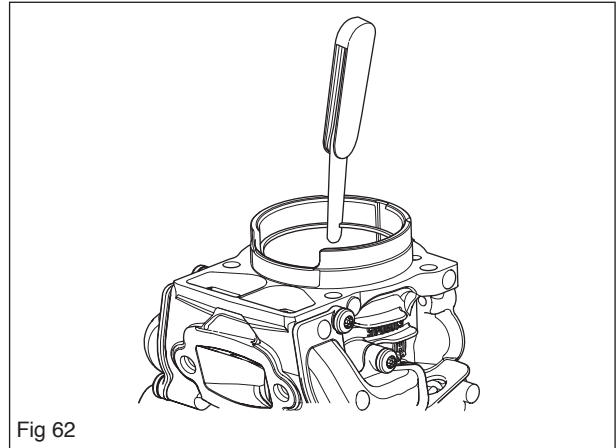

Fig 62
- Measure the wear on the piston ring. This must not exceed 1 mm. See figure 62. Use the piston to push the piston ring downward.